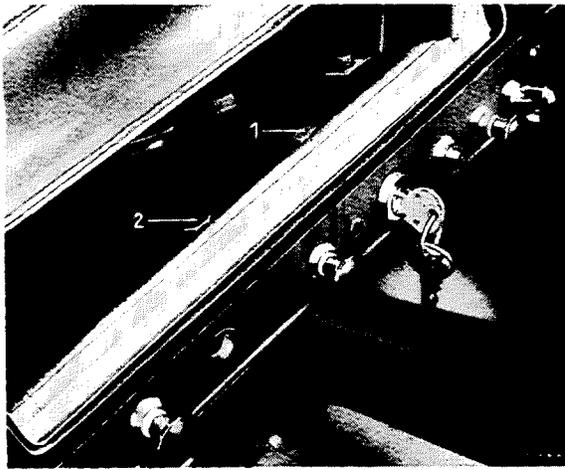

Fig. L 8/5
5. Unscrew the hexagon nuts (3) of the tightening strap at the steering column bracket and take out the tightening strap forward (in the direction of travel) (see Fig. L 8/1).
7. Unscrew the hexagon nuts (1) and (2) from the two steering column bracket stud bolts (Fig. L 8/5).
the blue cable to terminal 61 (see Fig. L 8/4).
11. Insert the steering column bracket with lock; screw on and tighten the two hexagon nuts for the two stud bolts (4) (see Fig. L 8/5).
**Note:** The attaching plate can be centered with the cylinder of the lock by moving the threaded bolts (see Fig. L 8/5).
13. Insert the tightening strap which fixes the steering column jacket from the front and by means of the tightening strap (2), fix the steering column jacket to the steering column bracket by screwing on and tightening the hexagon nuts (3) (see Fig. L 8/1).